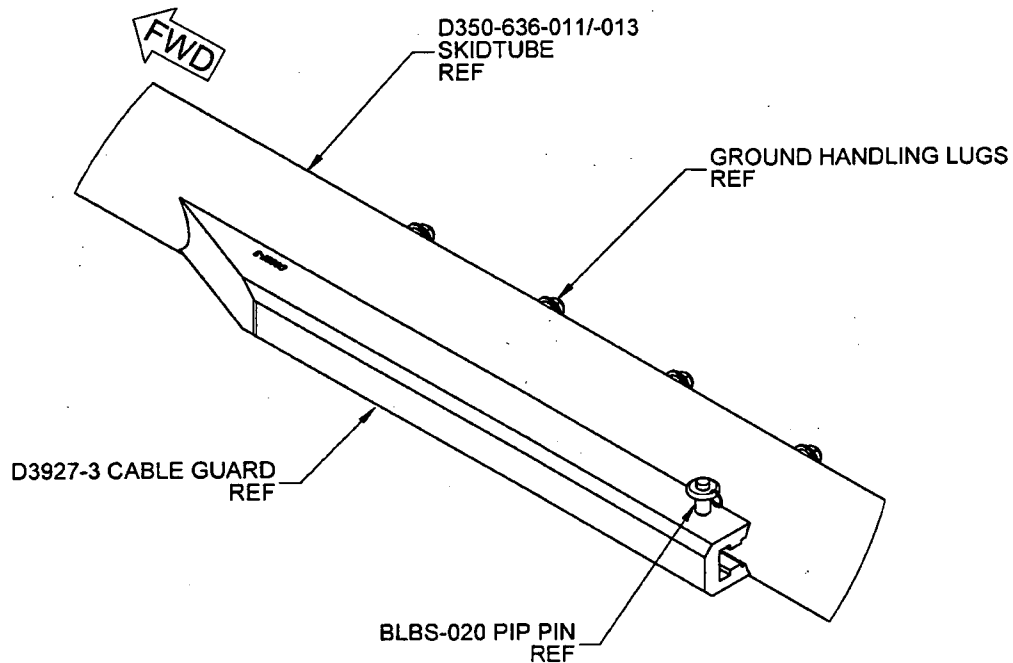

FIGURE 3: D350-636-107B AFT CABLE GUARD KIT
- 2) Insert the BLBS-020 pip pin into the hole at the aft end of the D3927-3 cable guard to secure it in place. See Figure 3 Sheet 4 for details.